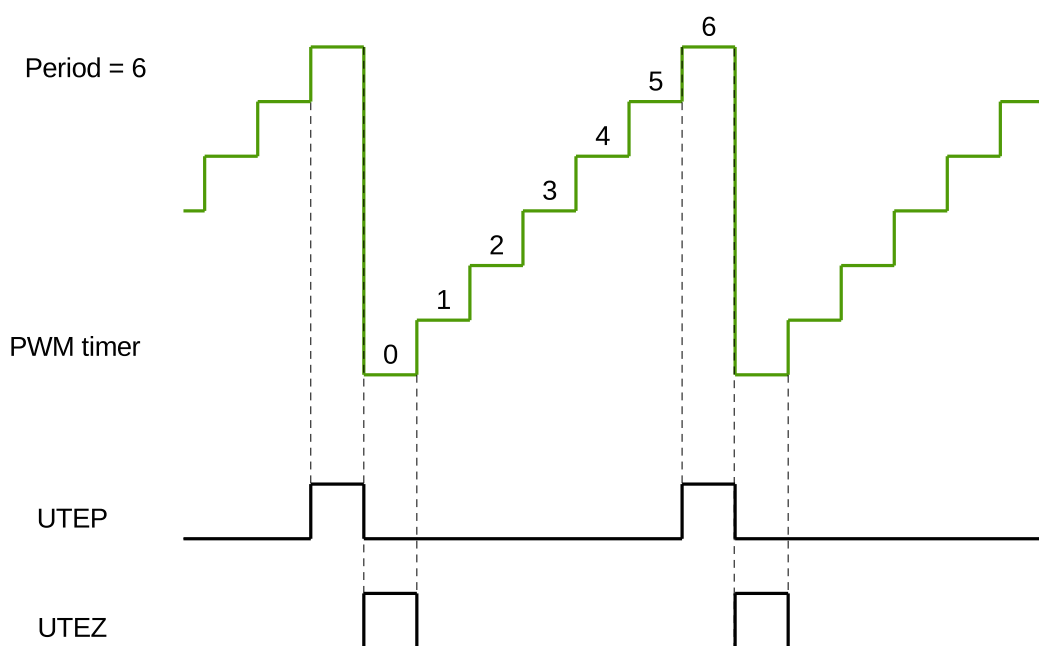

Figure 101: UTEP and UTEZ Generation in Count-Up Mode
Figures 101 to 103 show the timing waveforms of U/DTEP and U/DTEZ.
1. UTEP and UTEZ do not happen simultaneously. When the PWM timer is in count-up mode, UTEP will always happen one cycle earlier than UTEZ, as demonstrated in Figure 101, so their action on PWM signals will not interrupt each other. When the PWM timer is in count-up-down mode, UTEP will not occur.